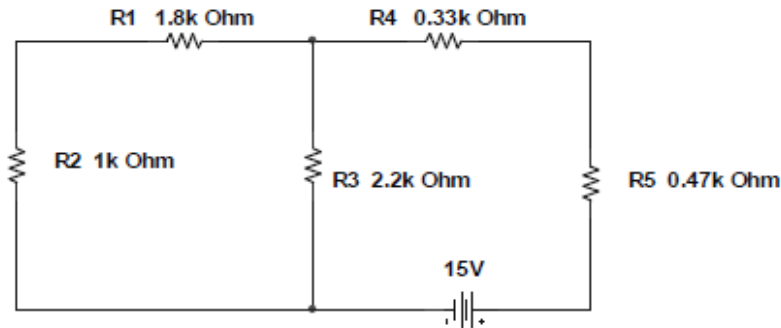

Figure 4
- Disconnect the 20V source and link R2 and R3 as shown in Figure 4. Measure the branch currents I_1'' , I_2'' , I_3'' , I_4'' and I_5'' as before.